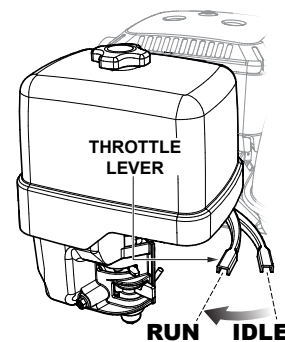

Figure 25. Throttle Lever (Operation)
1. After the engine has been started, move the throttle lever quickly to the **RUN** position. The machine will start vibrating (Figure 25).